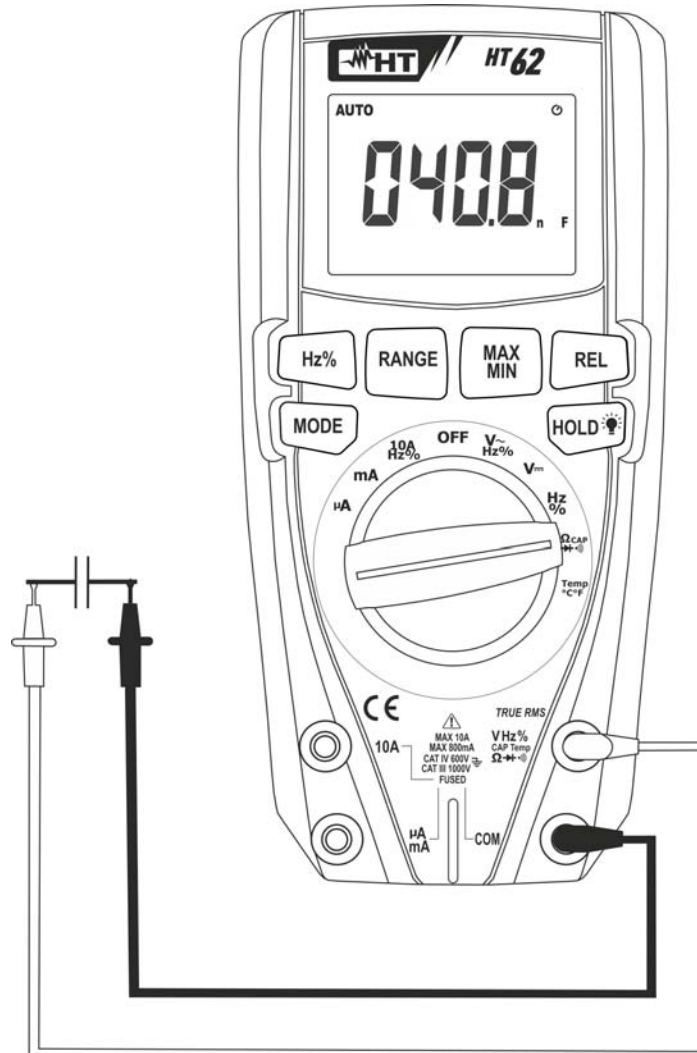

Fig. 7: Use of the instrument for Capacitance measurement
5. Position the leads at the ends of the capacitor to be tested, respecting, if necessary, the positive (red cable) and negative (black cable) polarity (see Fig. 7). The display shows the value of capacitance.